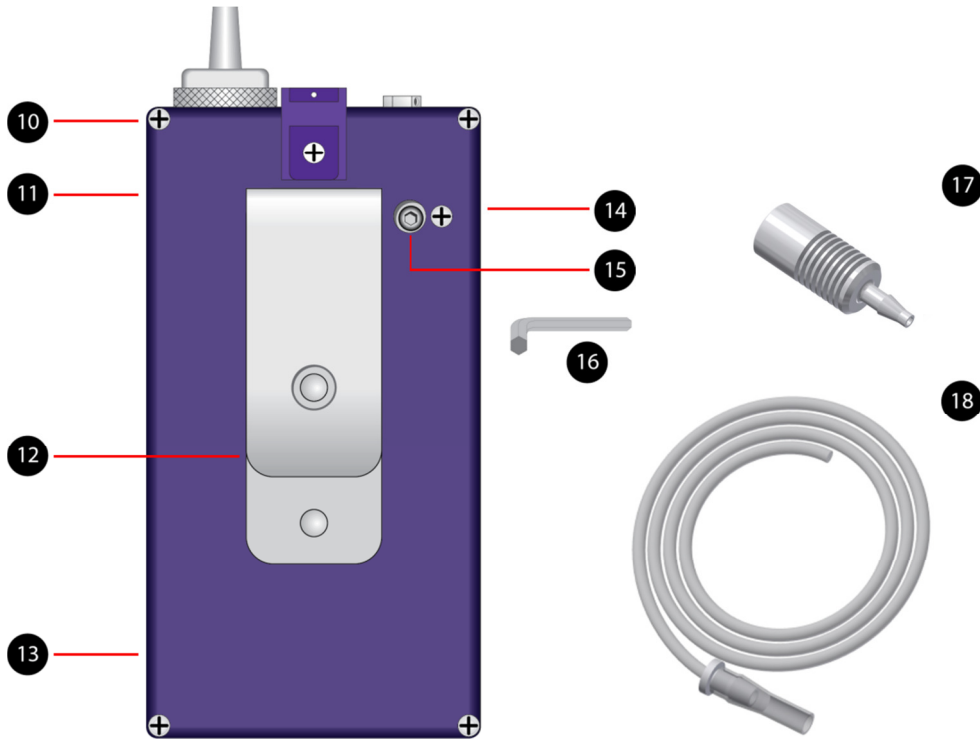

Figure 2: Back view of ACTI-VOC.
- Make certain the charger plug is fully inserted into the jack on the battery pack (see Figure 2, label 11, for the location of the Charging jack).